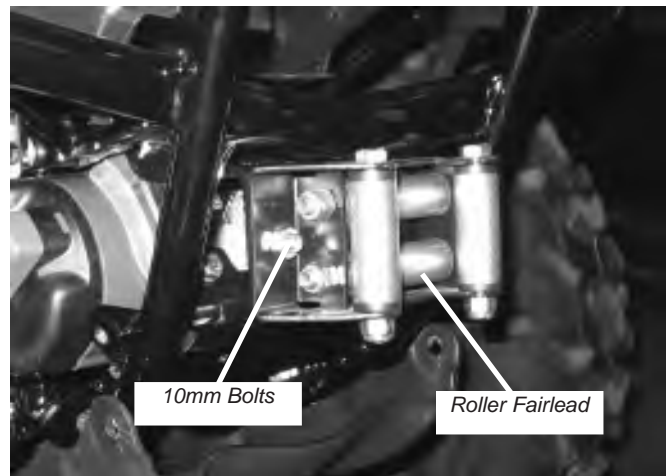

Figure 20 Roller Fairlead Installation
20. Install the roller fairlead using the two 10mm bolts, lock washers, and nuts supplied with the winch, figure 20.